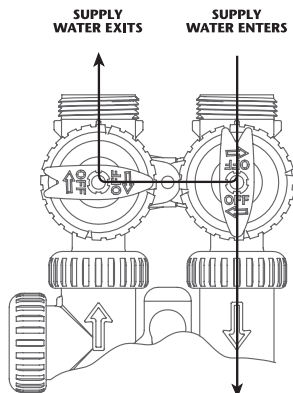

Figure 3
3. **Diagnostic Position:** The inlet handle points toward the control valve and the outlet handle points to the center of bypass valve. Untreated supply water is allowed to flow to the system and to the building, while not allowing water to exit from the system to the building (Fig. 3). This allows the service technician to draw brine and perform other tests without the test water going to the building.